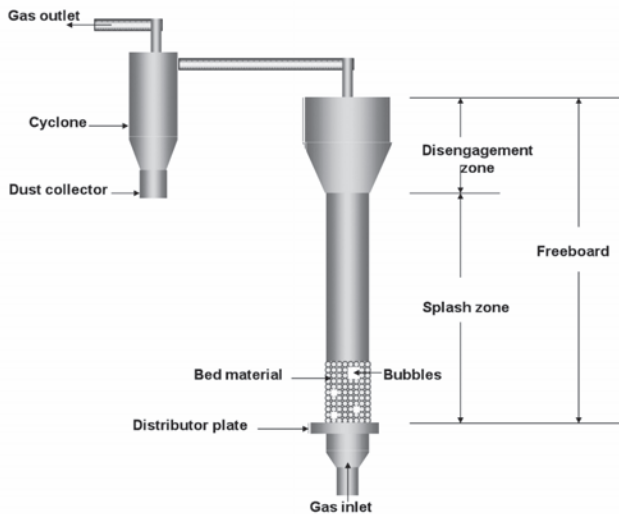

FIGURE 2. Simple fluidized bed combustion system
**Industrial Combustion Systems** – Three of the most common types of industrial combustion systems are downdraft combustion, updraft combustion and fluidized bed (Figure 2) combustion systems. Downdraft combustion is where flames are drawn into the